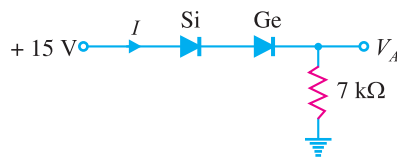

**Fig. 6.72**
1. What is the current in the circuit in Fig. 6.72 ? Assume the diode to be ideal. [10 mA]